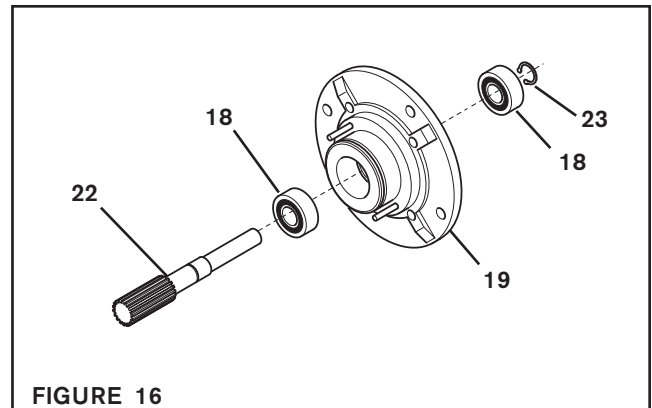

FIGURE 16
26. Remove the Retaining Ring (Item 23) from the Stub Shaft (Item 22) (See Figure 16).
27. Press the Stub Shaft (Item 22) out the Male Pilot (Item 19) (See Figure 16).
32. Press the second new Bearing (Item 18) onto the Stub Shaft (Item 22) (See Figure 16).
34. Carefully align the outer race of the second new Bearing (Item 18) with the bore of the Male Pilot (Item 19) (See Figure 16).
35. While supporting the Male Pilot (Item 19) and the inner race of the first new Bearing (Item 18) and pressing on the outer race of the second new Bearing (Item 18), press the second new Bearing and Stub Shaft (Item 22) into the Male Pilot (See Figure 16).
36. Reinstall the Retaining Ring (Item 23) (See Figure 16).
37. Apply a thin film of NEVER-SEEZ® to the splines of the Stub Shaft (Item 22) (See Figure 16).
28. Press the old Bearing (Item 18) off the Stub Shaft (Item 22) (See Figure 16).
29. Press the old Bearing (Item 18) out of the Male Pilot (Item 19) (See Figure 16).
30. Clean the bearing bore of the Male Pilot (Item 19) with fresh safety solvent, making sure all old Loctite® residue is removed (See Figure 16).
31. Apply an adequate amount of Loctite® 680 to evenly coat the outer race of the first new Bearing (Item 18) and press it into the output side of the Male Pilot until it is seated against the Retaining Ring (Item 17) inside the Male Pilot (See Figure 16).